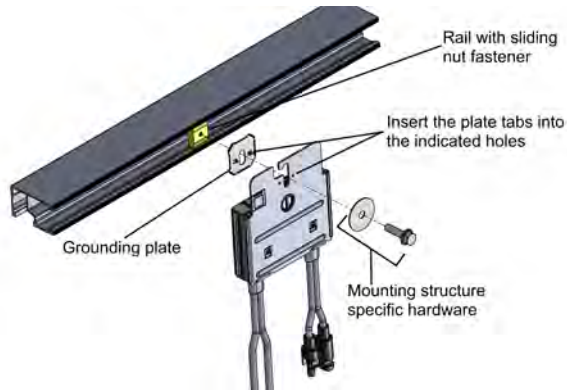

Figure 6: Power optimizer installation and grounding using a grounding plate
- For mounting on rails with sliding nut fasteners:** If the star washer cannot be used, use the SolarEdge grounding plate (purchased separately) between the railing and the flat side of the mounting bracket. Use mounting specific hardware as needed. Apply a torque of 9.5 N\*m / 7 lb\*ft. See Figure 6.